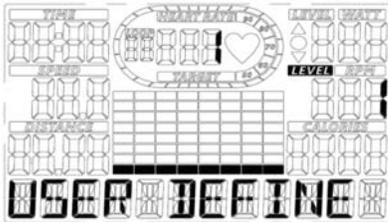

Fig. 41
- There are 20 segments for profile setting. Press UP (▲)/DOWN (▼) buttons to set LOAD then press SET button to confirm and go on for next setting (Fig. 41).